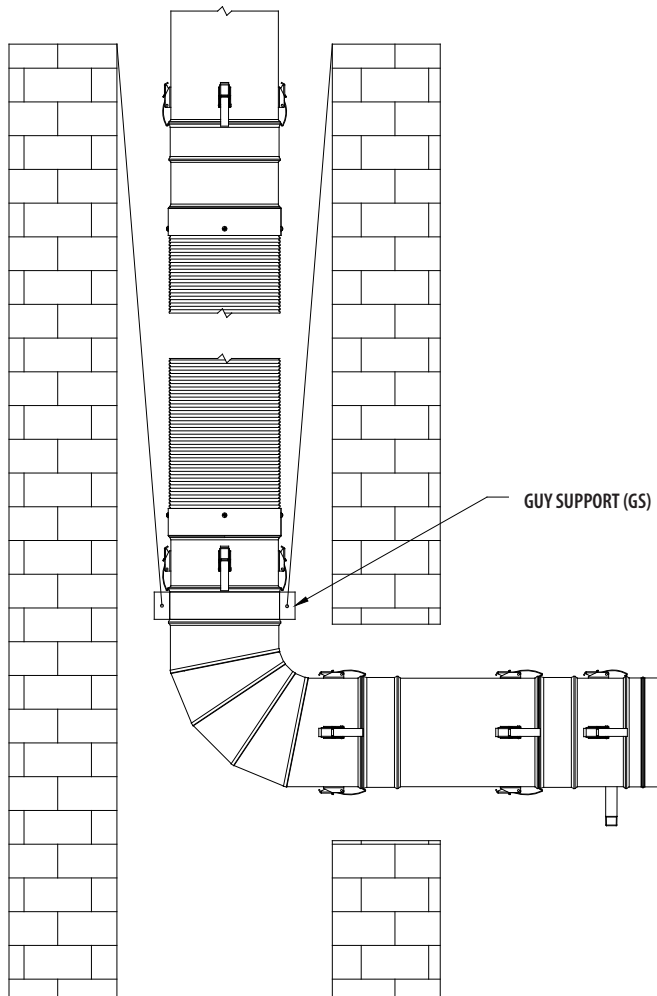

Figure 25- DuraSeal Flex Adapter - Elbow in masonry
- 4- The DuraSeal Flex must stay within the masonry chimney; however the Elbow or other DuraSeal components will extend beyond the masonry chimney. (**Figure 25**)